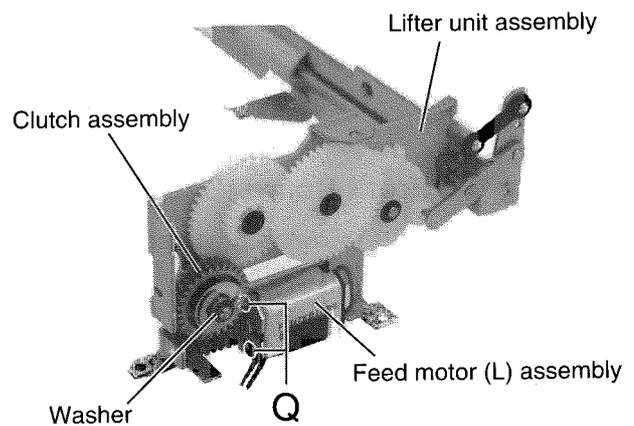

Fig.12
**■ Removing the feed motor (L) (See Fig.12)**